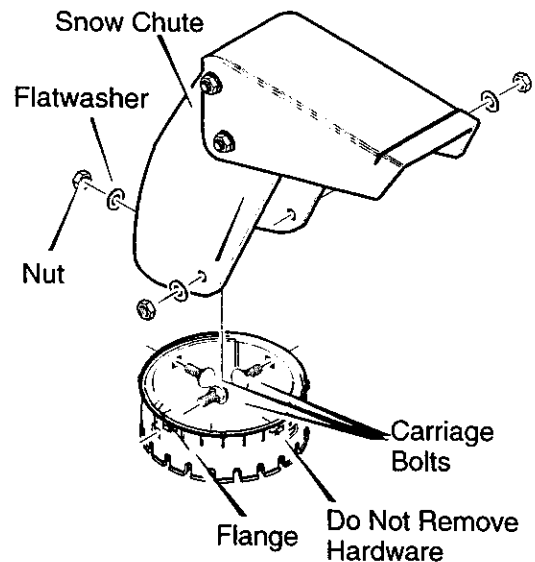

Figure 9
2. Position **snow chute** on inside of snow chute **flange** and align the three holes in the **snow chute** with holes on snow chute **flange**. (See Figure 9)
3. Place three **5/16–18 carriage bolts** from inside of chute as shown in Figure 9. (hardware is found in parts bag).